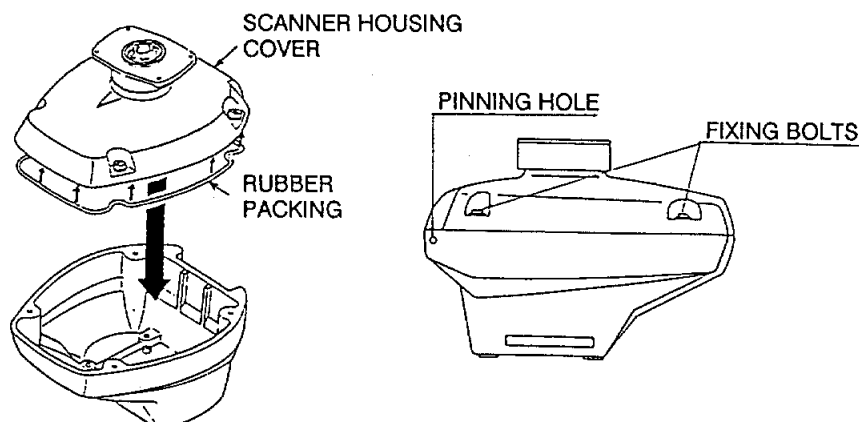

Figure 6-5 Fixing the Scanner Housing Cover
1. Place the scanner housing cover onto the scanner housing. Apply grease to the rubber packing. Making sure the packing rests properly in the groove, fasten the four fixing bolts temporarily by hand as shown in Figure 6-5.
2. Apply grease to the two slot pins and insert them into the pinning holes (shown in Figure 6-5) until the pin head is flush with the scanner housing surface. Use a wooden hammer to insert the pins, to prevent damage to the cosmetic paint.